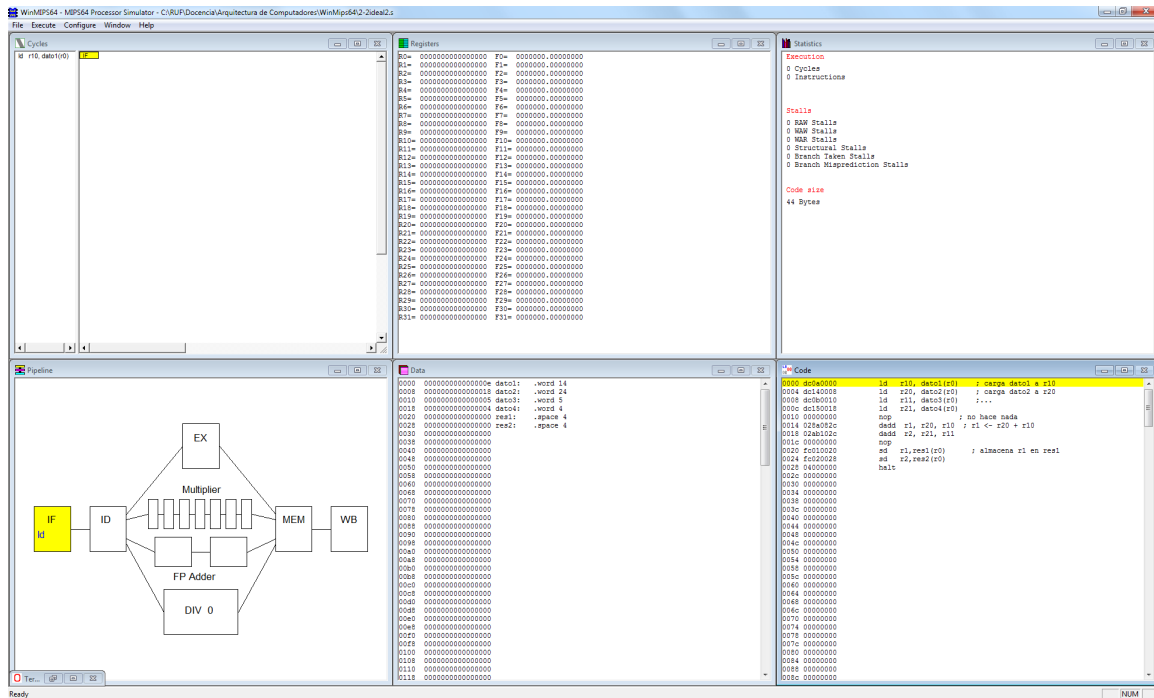

Figure 2.1: WinMips64 main window
- ❑ Run the simulator. A window similar to that represented in figure 2.1 will show up.